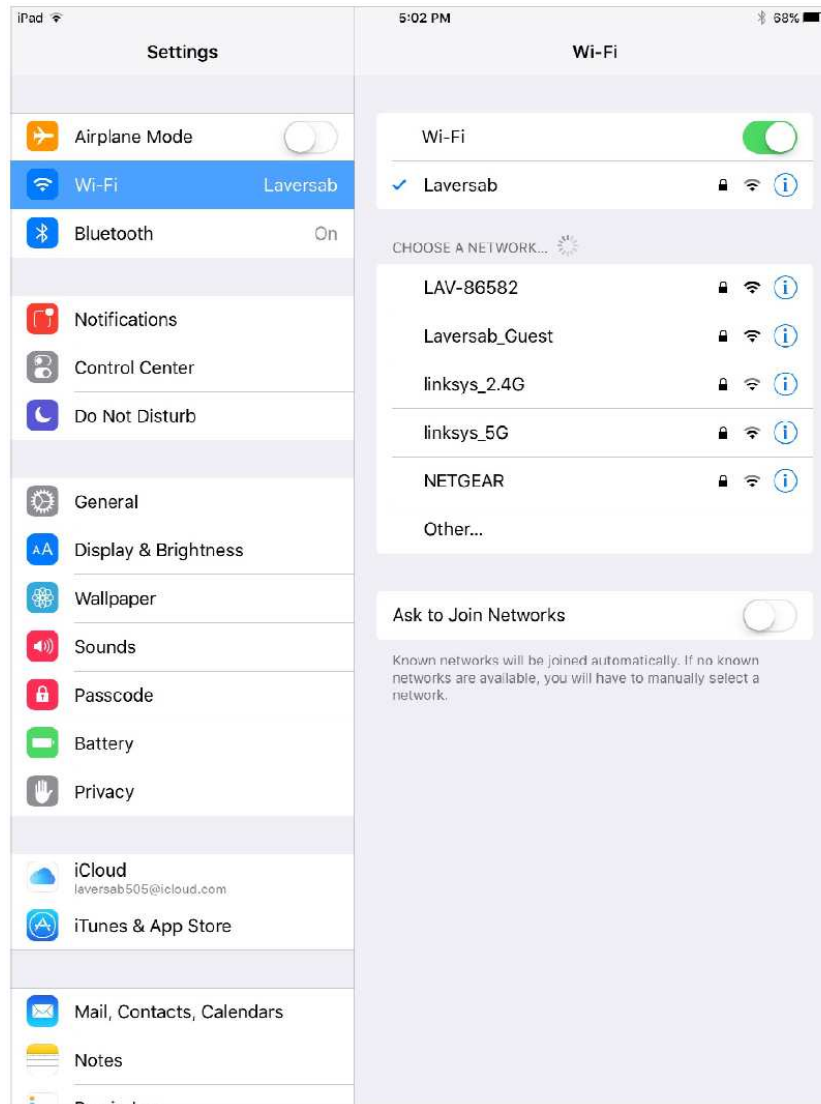

Figure E.1
- b. On the iPad select the 'Settings' icon. Then select the Wi-Fi section. (See Figure E.1 below). The right side will show all the Wi-Fi networks available. One of the networks will be labeled "LAV-xxxx", where 'xxxx' is the serial number of the tester you want to connect to.